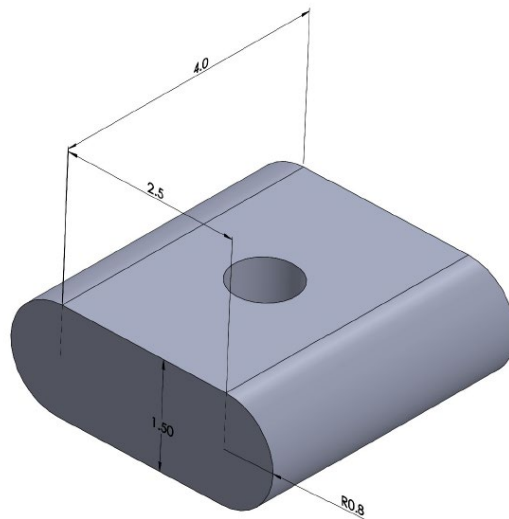

Figure 9. Loading Block Dimensions
5.3.2.Loading Block. Block dimensions are 4 inches by 4.1 inches by 1.5 inches (L x W x H), as shown in Figure 9.